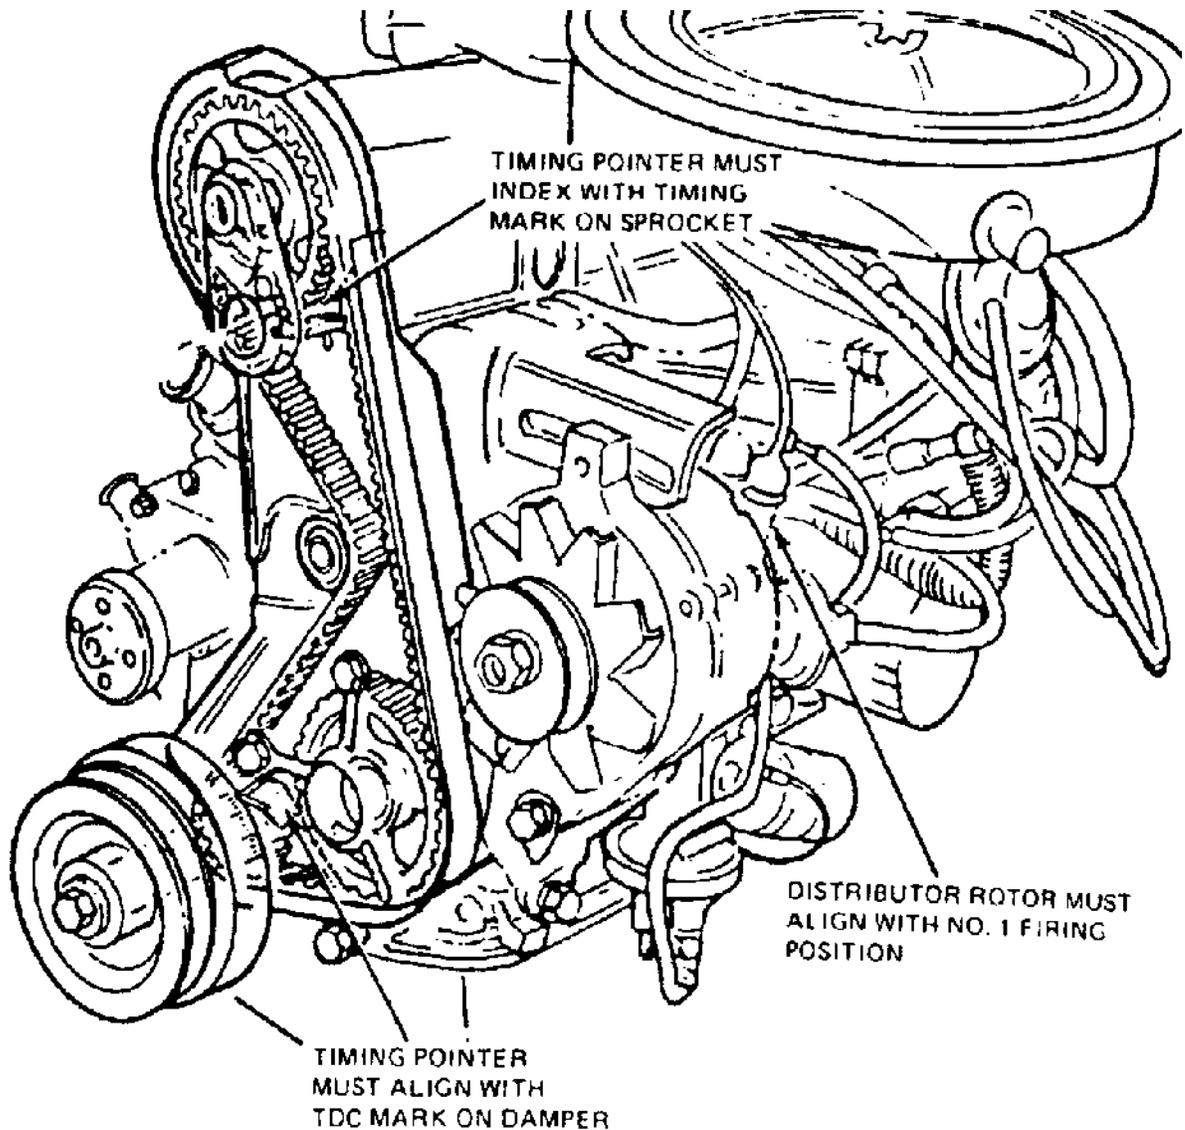

FIG. 3 - Timing Marks
NOTE: Make sure the timing pointer on the timing belt cover is lined up with the "O" mark on the crank shaft damper before removing the timing belt. (Refer to Fig. 3)
1. Before installing a new timing belt, make sure the camshaft sprocket timing mark lines up with the timing pointer on the engine. (Refer to Fig. 3)
3. Install the new timing belt (1) over the crankshaft sprocket and then counterclockwise over the the auxiliary and camshaft sprockets. Align the belt **fore** and **aft** on each sprocket. (Refer to Fig. 3)
5. Rotate the crankshaft two complete turns in normal rotation to remove the slack from the belt. (Refer to Fig. 3)
6. Re-check the alignment of the timing marks. (Refer to Fig. 3)
12. Reconnect the battery cables. Start the engine and check the timing. With the governor unhooked, the vacuum advance hose removed and plugged, and the engine running at 800rpm's or less, the timing should be 10 degrees BTDC. Adjust if necessary. (Refer to Fig. 3)